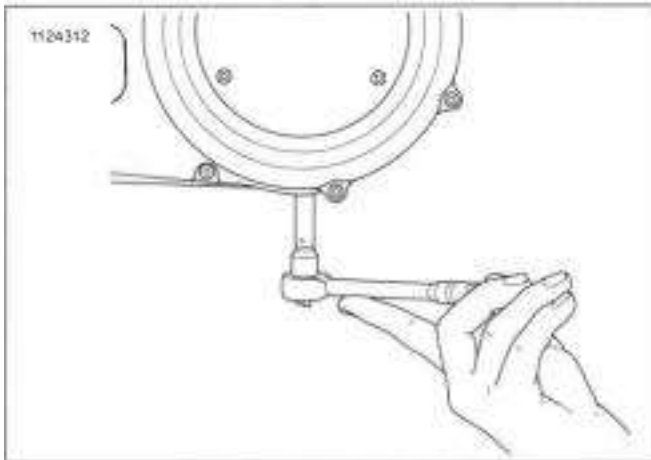

Figure 2-5. Removal/Installation of Chaincase Drain Plug
- See Figure 2-5. Drain primary chaincase.